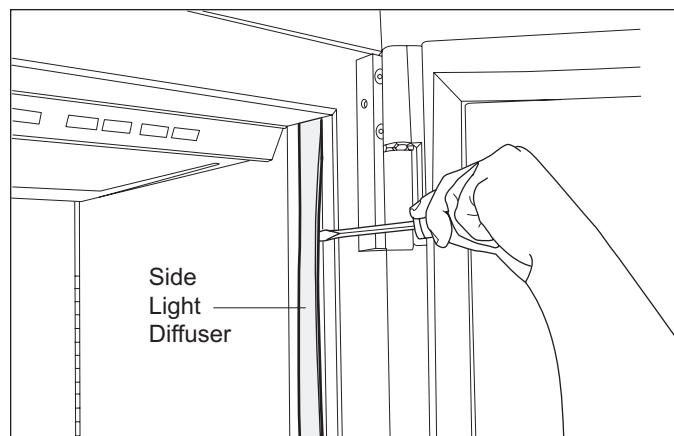

Figure 7-20. Side Light Diffuser Removal
1. Use a small flat bladed screwdriver to pry accent light diffuser out of the breaker strip, taking care not to damage the edges of diffuser or the breaker strip (See Figure 7-20).